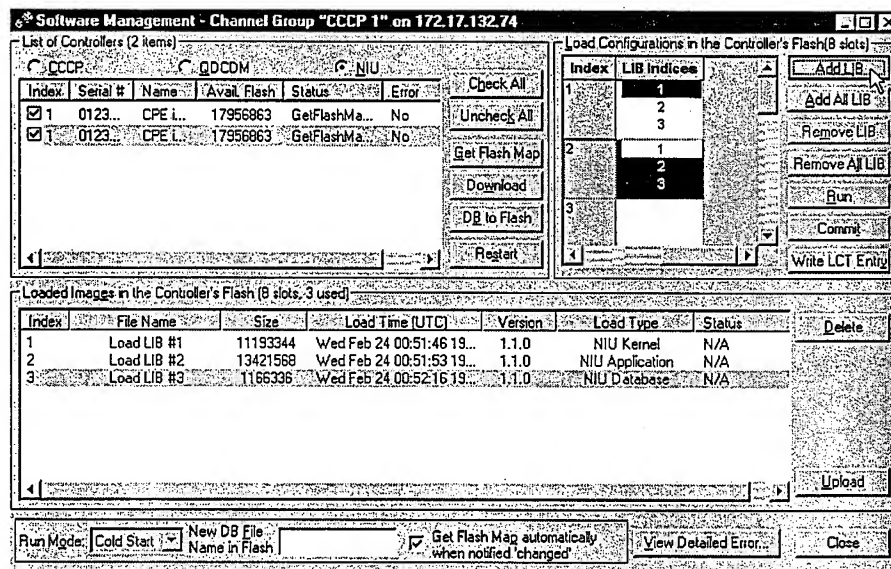

Figure 40. Load Configurations
1. Select a Load Configuration Index in the top right pane (see Figure 40).
2. In the bottom pane, select a file to be included in the Load Configuration and click **Add LIB**, as shown in Figure 40.